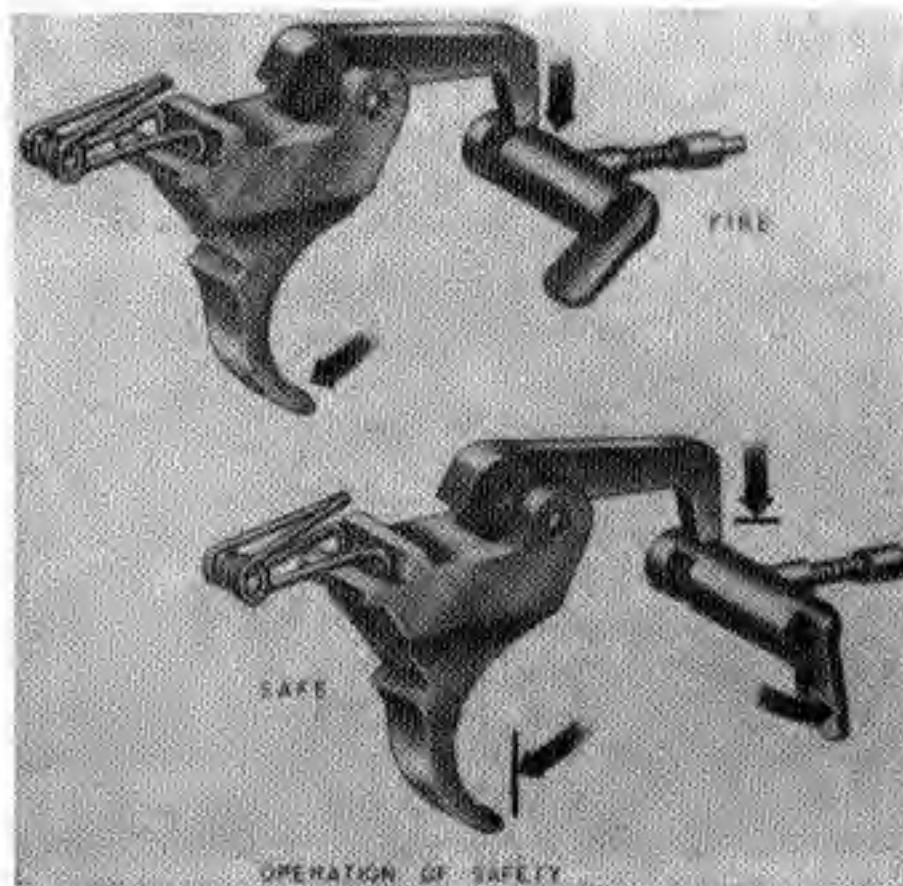

Figure 43. How the safety works.
*a. The Safety.* To see how the safety works, cock the hammer and rotate the safety downward to the *safe* position. As you rotate the safety downward the trigger notch in the safety rotates to the rear and in its place the solid portion of the safety is exposed to the forward end of the trigger. Attempt to squeeze the trigger. The solid portion of the safety now blocks the forward end of the trigger, preventing the trigger from moving. Since the trigger cannot move, the hammer remains stationary and the weapon does not fire (Fig. 43).